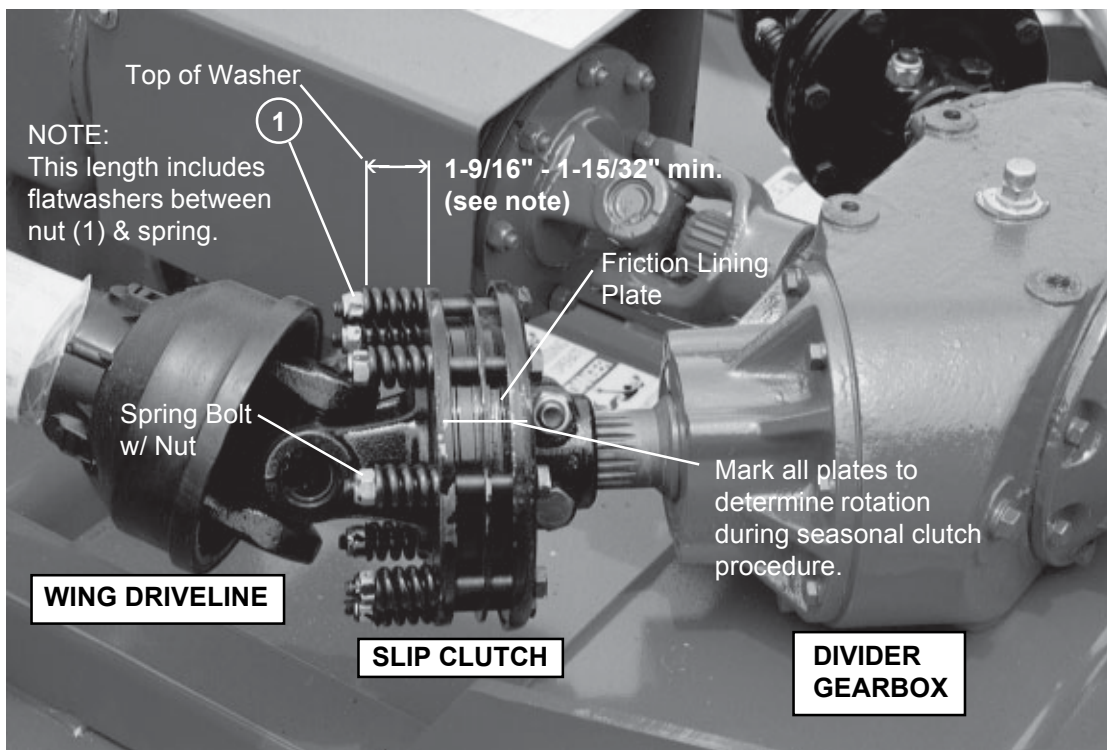

FIGURE 21
After the first hour of operation, the slip clutches should be checked for overheating. After this first check, inspect weekly or anytime there is overheating. To adjust the slip clutch, tighten the spring bolts 1/8 (maximum) turn at a time. See **Figure 21** for minimum dimension. DO NOT tighten springs beyond 1-15/32" length (from top of washer to pressure plate).
1. Loosen nuts (**Figure 21**) on springs until the springs can freely rotate, yet remain secure on bolts.
3. Mark outer plates as shown in **Figure 21**.